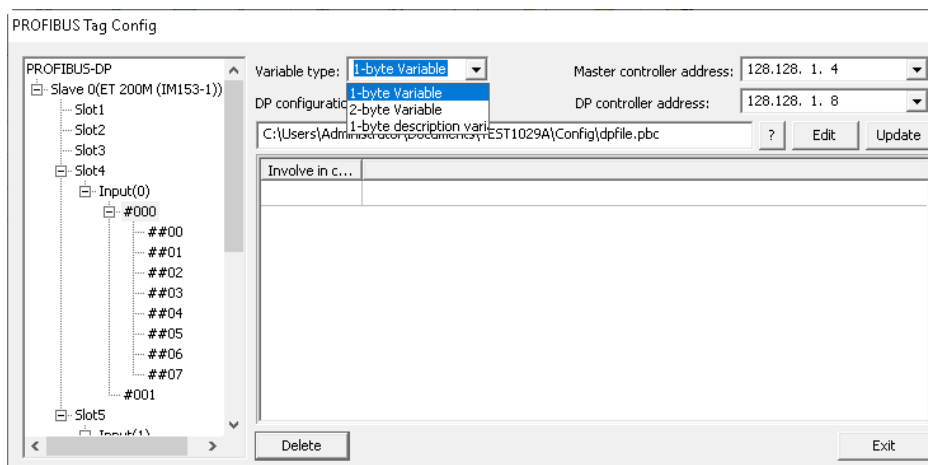

Figure 4-34 Choose a variable type
- Contents in the pull-down dialog are decided by selected address and module free space. Choose a variable type; the relative tags will be generated automatically. Then, you can configure the properties of tags. However, if there are other tags occupying the address, there will be a prompt whether delete those tags and please do the following operations according to the prompts. As shown in Figure 4-34.